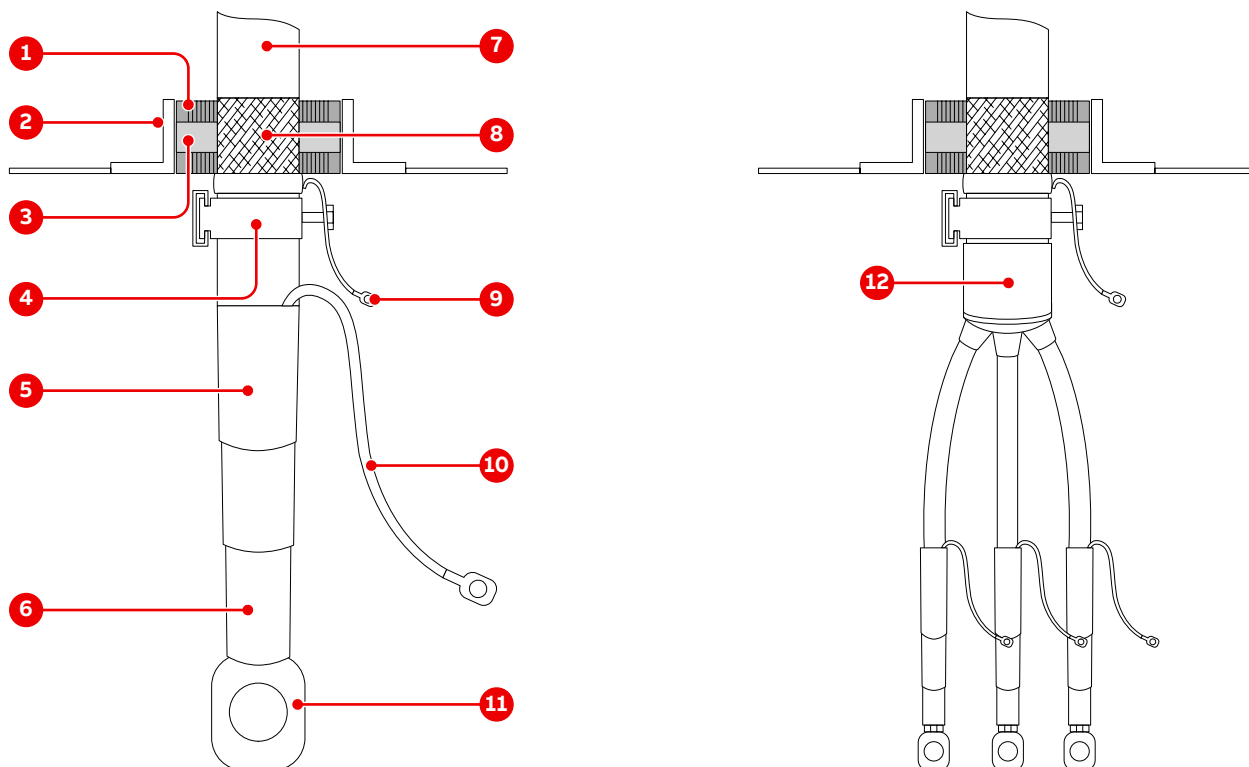

Figure 6–18 Preparing power cables for sealing modules
1. Prepare cables with an outer cable screen or shield for EMC bonding with the metal enclosure of the cabinet as illustrated in Fig. 6–18.